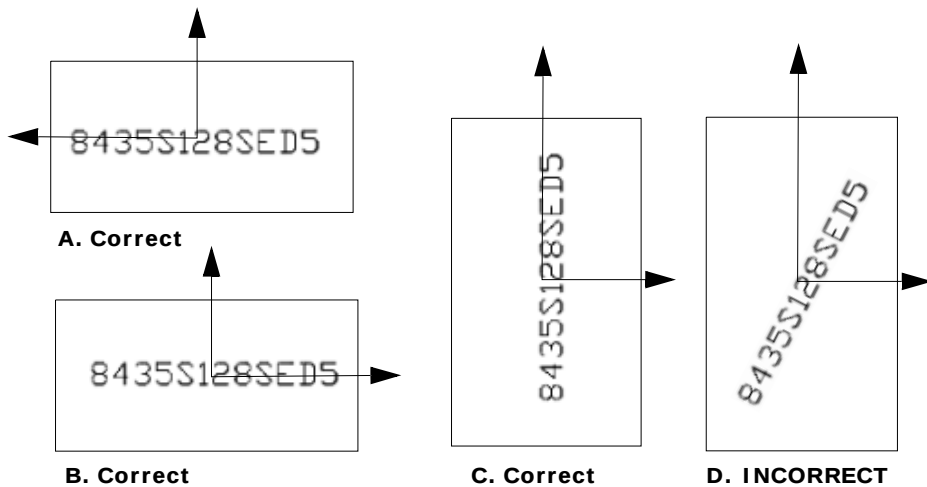

Figure 435 Correct Positioning of OCR Fixed Font Tool
- The Rectangle must be positioned so that its axes are orthogonal to the character string. Figure 435 shows examples of correct positioning (A, B and C) and incorrect positioning (D). Depending on the configuration of the tool, it can be possible to decode